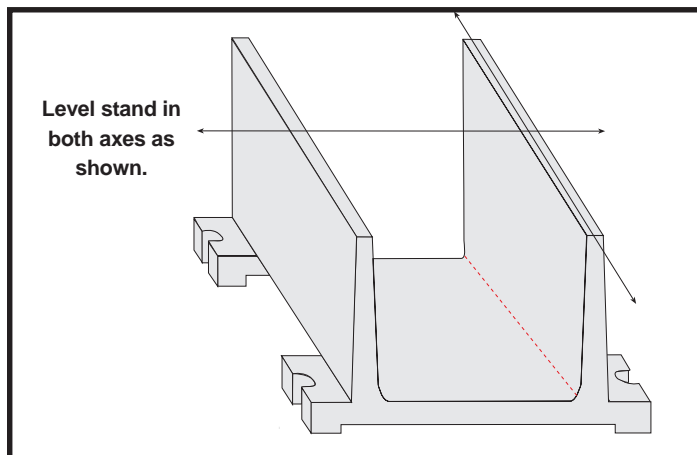

Figure 3
Balance stand shown in **Figure 3** has four mounting lugs so it can be bolted down. Bottom of lug pads and two narrow top edges have been surface ground. When stand is placed on a
- C. Shim under four corners as necessary to level stand in both directions as shown in **Figure 3**. If separate bench and surface plate combination is used, surface plate can be leveled using three leveling screws located under surface plate. **See Picture 4**. Level stand/plate by placing level on stand as in **Picture 5**. Turn stand with level on edges 90° and check.